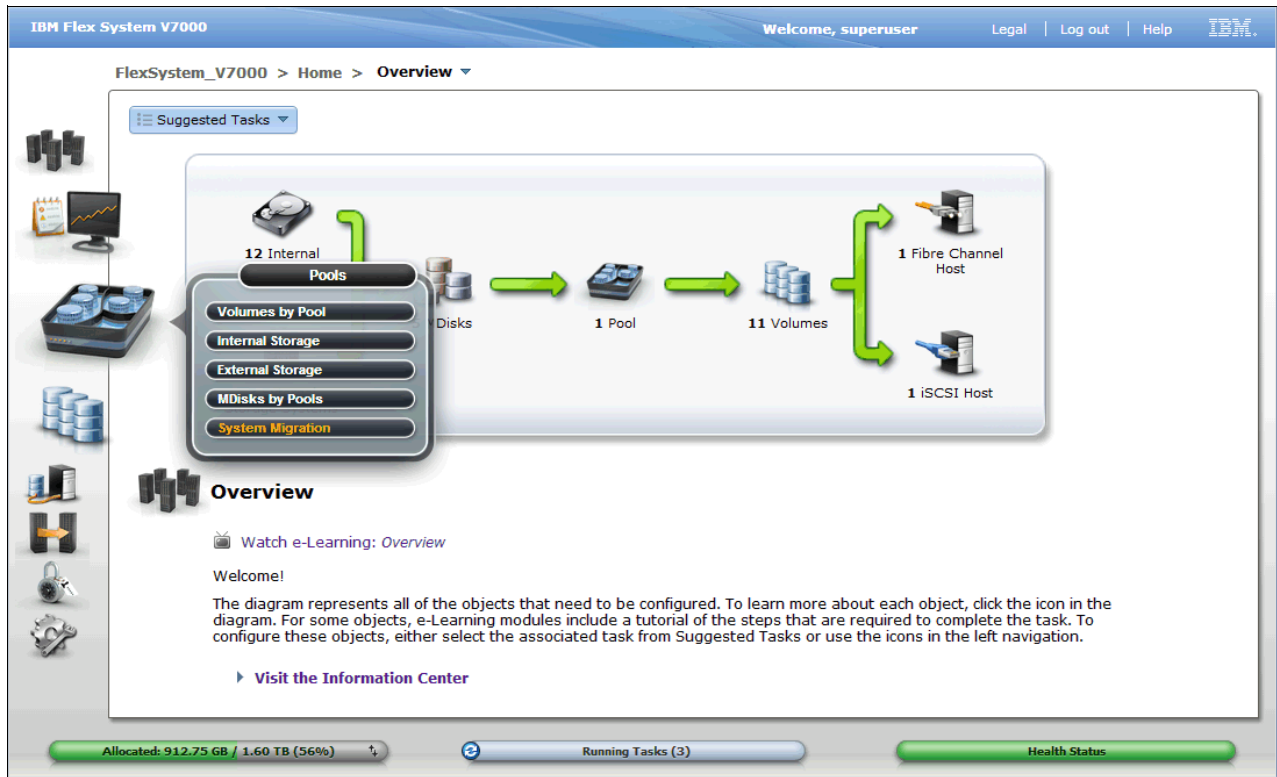

Figure 7-8 Migrate Storage from Pools menu System Migration option
- ▶ Method 2: Click the **Pools** icon and click **System Migration** as shown in Figure 7-8.